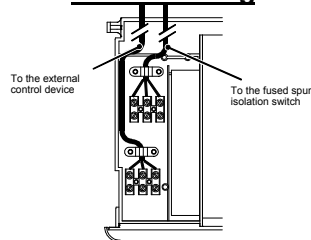

Figure 12.12
- Route the electrical supply cord and the external control cord as illustrated in Fig. 12.12